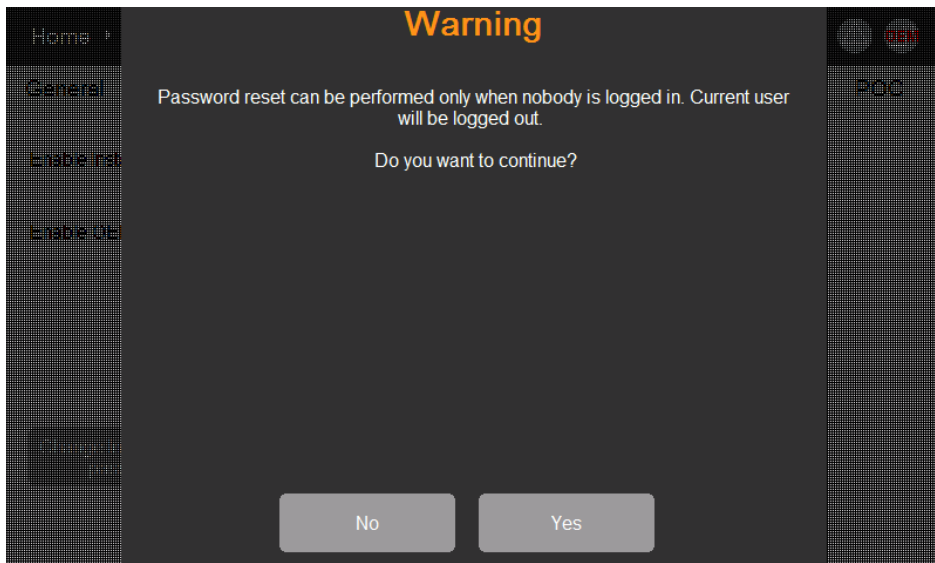

Fig. 90: Password reset warning dialog box.
- a. If the user is logged in when this button is selected, the dialog box shown in Fig. 90 will appear. In this case, select No, log out and perform the above steps again.